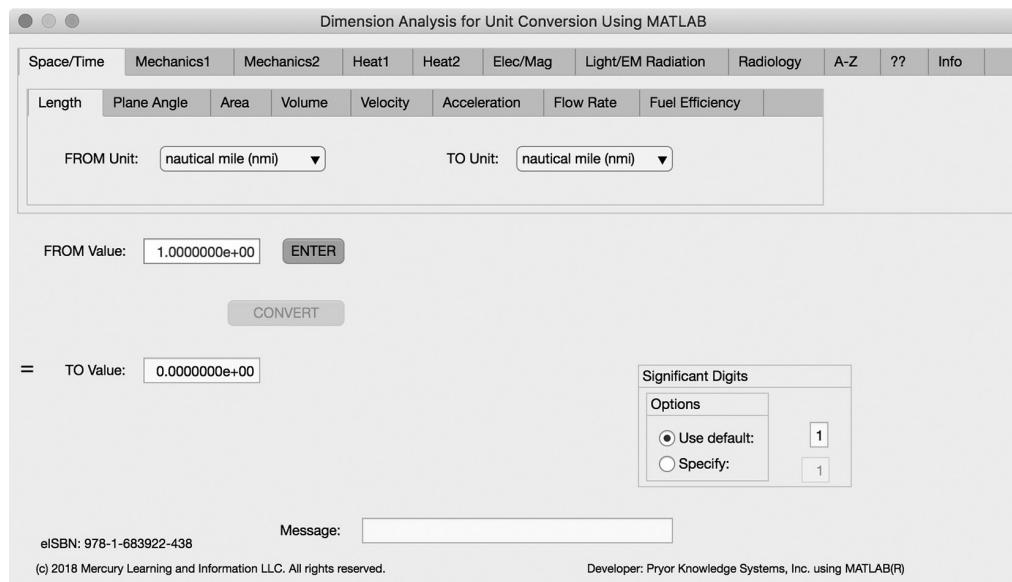

FIGURE C.1 Opening App Screen.
1. Click only one time on the app icon in the Apps toolbar. The control panel will open on the computer screen (see Fig C.1).
1. Click on the major category tab, Space/Time, and then on the Acceleration tab (See Fig C.1).